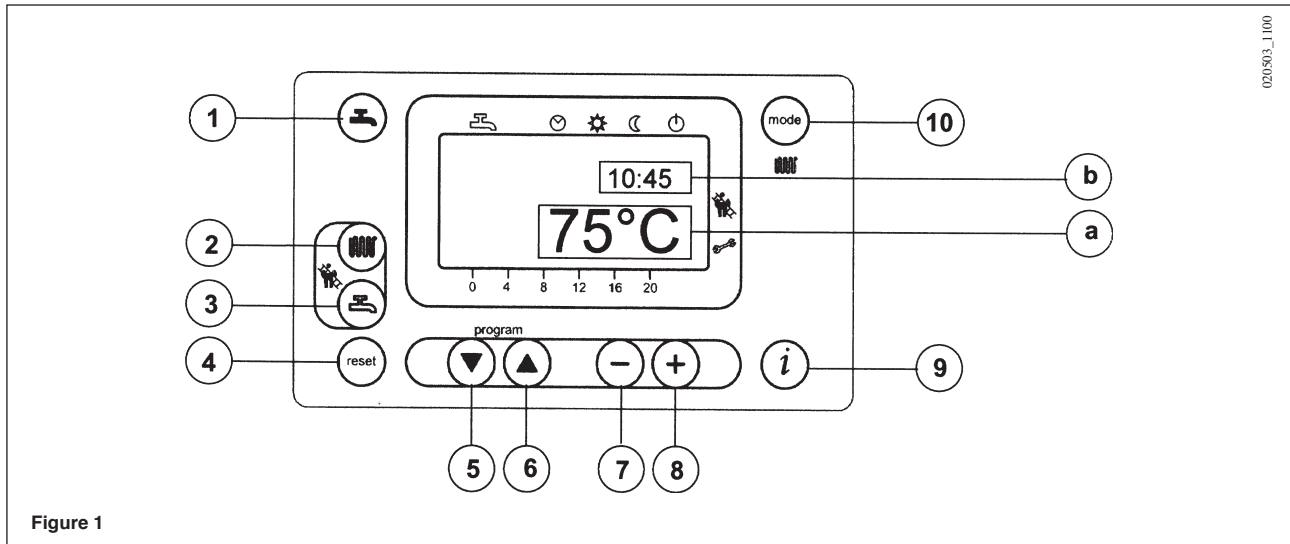
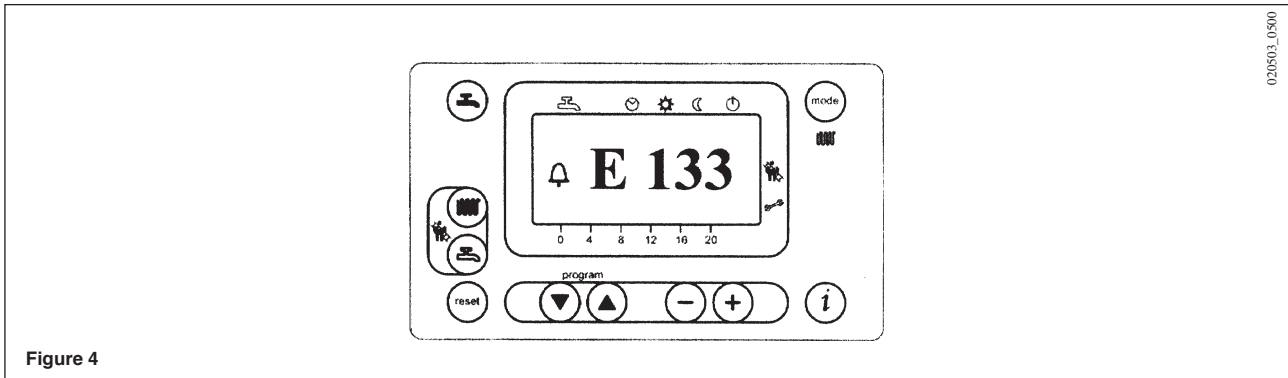
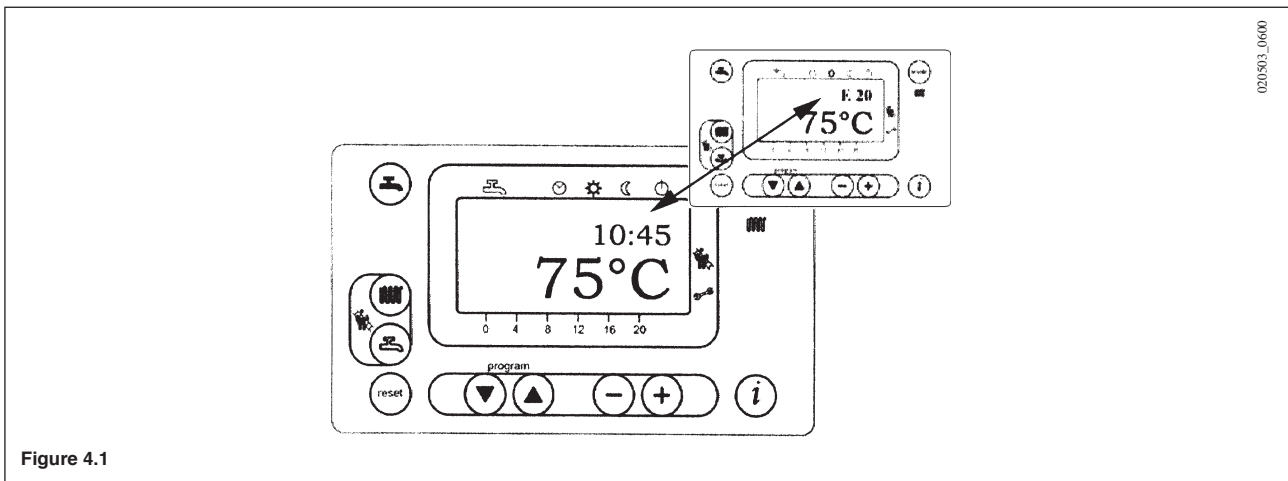

Figure 1
Figure 4
Figure 4.1
- Press the  key (2-figure 1) to set the central heating water temperature;
- Press either of the   keys (1 or 10 - figure 1) to save and return to the main menu.
N.B – With the outdoor sensor connected, the  key (2 - figure 1) can be used to shift the central heating curve. Press the   keys to decrease or increase the room temperature in the premises to be heated.
- Press the  key (3-figure 1) to set the maximum domestic hot water temperature;
The fault warnings appear on the main display (figure 1 a) together with the  symbol (Figure 4).
Fault warnings appear on the secondary display (figure 1 b) alternating with the time, both of them flashing (figure 4.1). It is not possible to reset malfunction warnings which appear on the secondary display as the cause of the alarm has first to be removed.